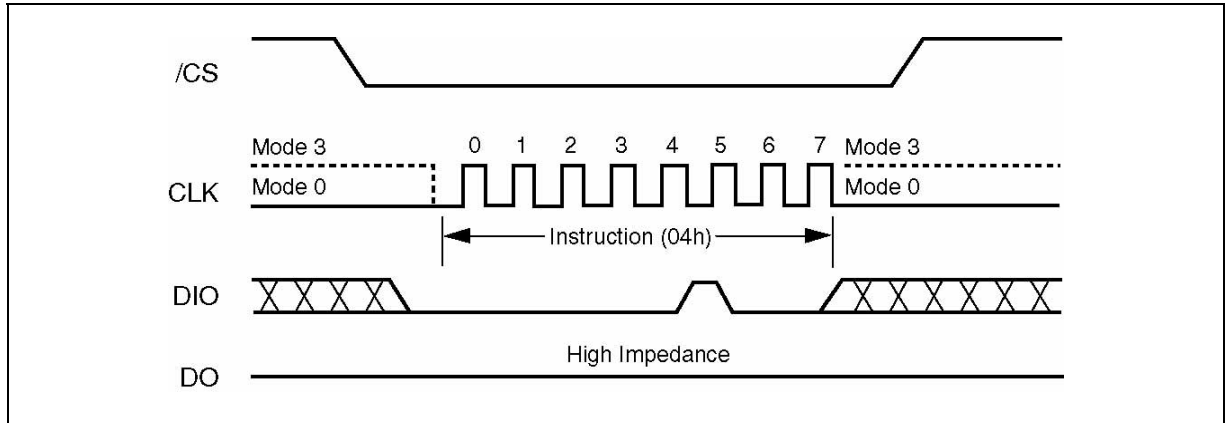

Figure 4. Write Disable Instruction Sequence Diagram
Instructions vary in length from a single byte to several bytes and may be followed by address bytes, data bytes, dummy bytes (don't care), and in some cases, a combination. Instructions are completed with the rising edge of edge /CS. Clock relative timing diagrams for each instruction are included in figures 4 through 19. All read instructions can be completed after any clocked bit. However, all instructions that Write, Program or Erase must complete on a byte boundary (CS driven high after a full 8-bits have been clocked) otherwise the instruction will be terminated. This feature further protects the device from inadvertent writes. Additionally, while the memory is being programmed or erased, or when the Status Register is being written, all instructions except for Read Status Register will be ignored until the program or erase cycle has completed.
The Write Enable instruction (Figure 4) sets the Write Enable Latch (WEL) bit in the Status Register to a 1. The WEL bit must be set prior to every Page Program, Sector Erase, Block Erase, Chip Erase and Write Status Register instruction. The Write Enable instruction is entered by driving /CS low, shifting the instruction code "04h" into the Data Input (DI) pin on the rising edge of CLK, and then driving /CS high.